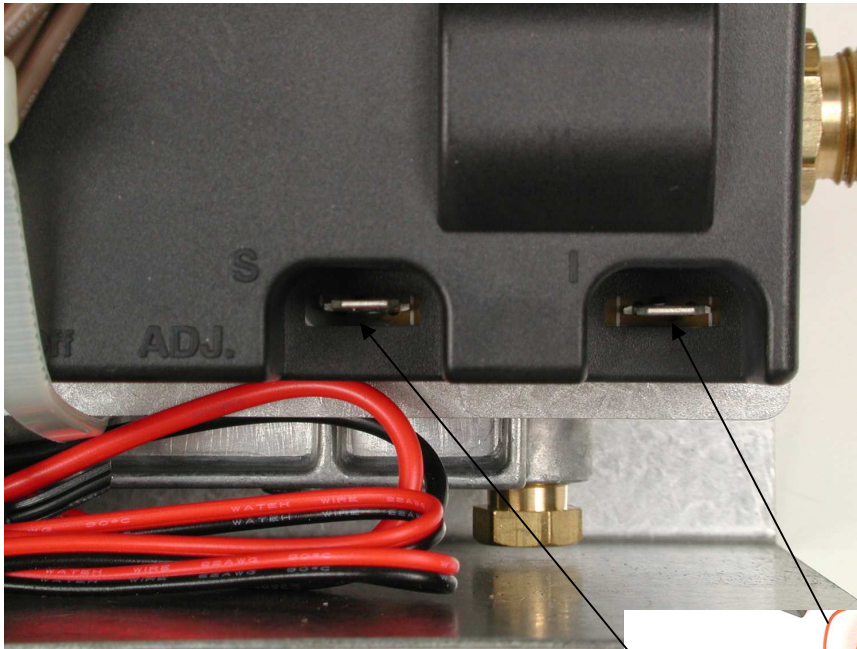

Figure 22
- 1) Confirm that the “S” wire and the “T” wire are properly connected to the Control Module at the “S” and “T” Terminals. See Page 7 Figure 22 for terminal locations.